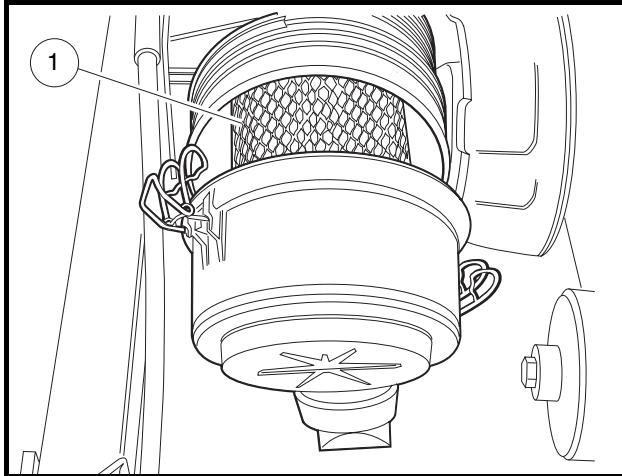

Figure 34 Air Filter Cartridge
2. Release both canister tab locks (**Figure 34**).
4. Remove the air filter cartridge (1). **See following NOTE.**